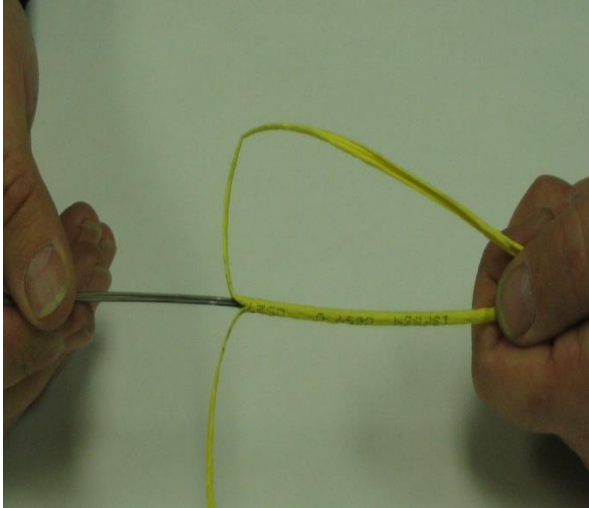

Figure 13
8.4 Use your fingers to pull the remaining foam back until it reaches point marked on outer jacket. If PEF jacketing breaks during this step, continue to peel the PEF with your fingers. Then use scissors to carefully cut away outer jacket **See Fig. 13.**